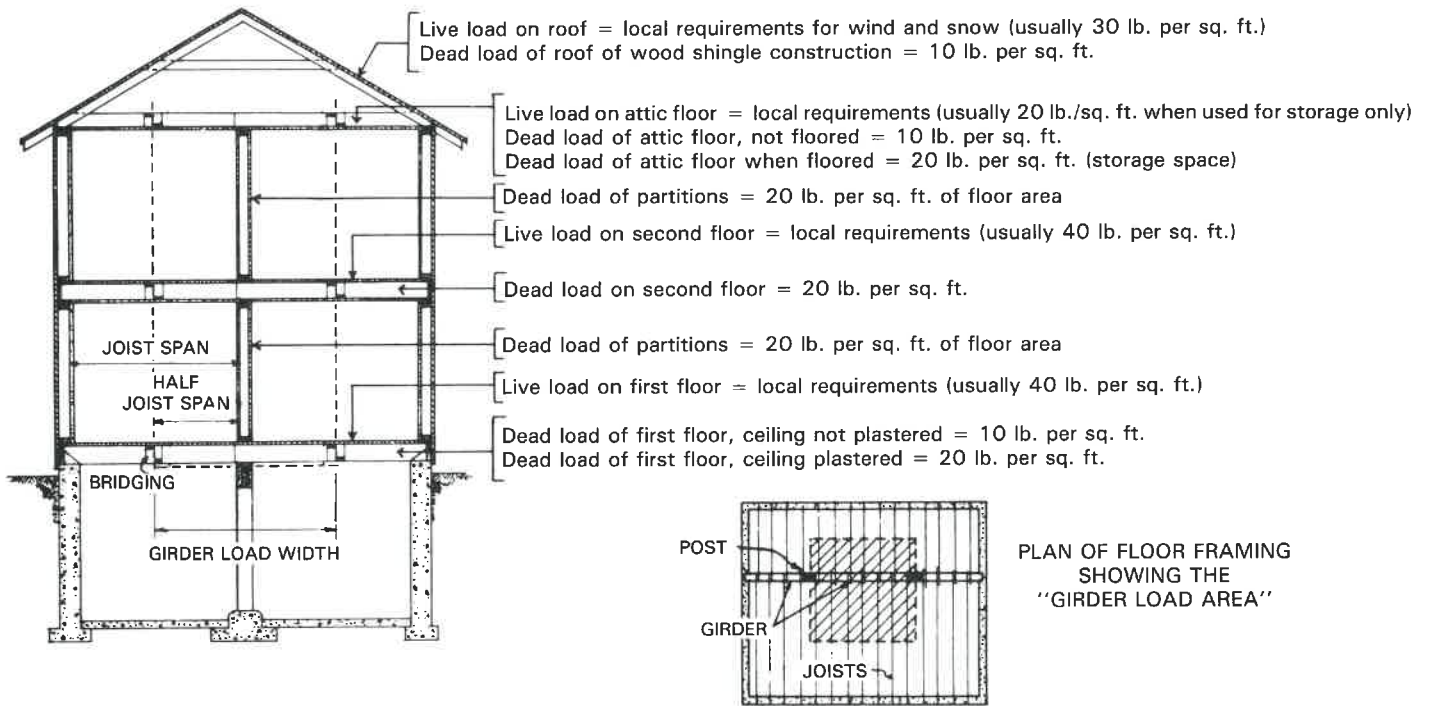

Fig. 27-10. Diagram shows method of figuring loads for frame of a two-story home.
3. Determine the "total floor load" per square ft. supported by joists and bearing partitions to girder. This will be the sum of loads per sq. ft. listed in the diagram, Fig. 27-10. This does not include roof loads. These are carried on the outside walls unless braces or partitions are placed under the rafters. Then a portion of the roof load is carried to the girder by joists and partitions.